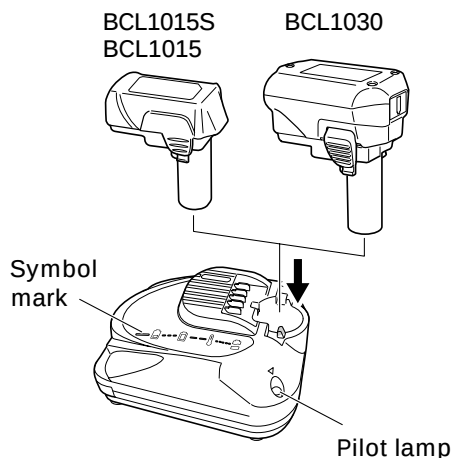

Fig. 2
2. Insert the battery to the battery charger. Insert the battery into the battery charger as shown in Fig. 2.